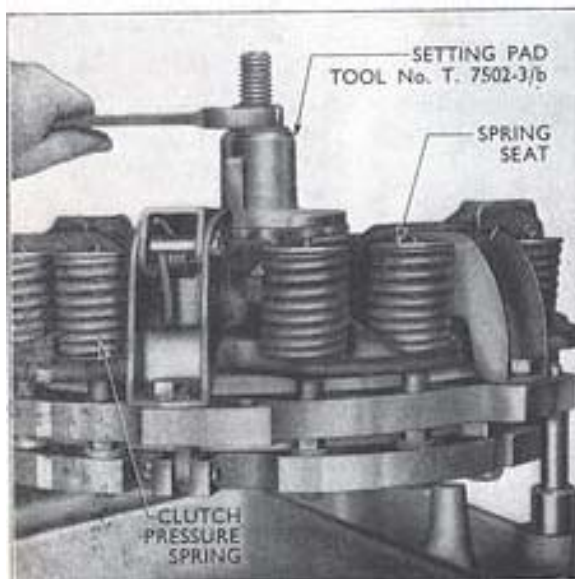

Fig. 11
1. Locate the setting pad (Tool No. T.7502-3/b) over the centre spindle of the assembly fixture so that the large end face of the pad contacts the transmission clutch release lever screws. Fit the flat washer and nut to the centre spindle then screw down the nut so that the setting pad depresses the transmission and P.T.O. release levers (see Fig. 11), moving the pressure plates away from the centre drive plate. When carrying out this operation, ensure the P.T.O. and transmission lever adjusting screws project out of the levers approximately the same distance ($\frac{3}{8}$ in. (9.53 mm.) will be suitable), otherwise a fouling condition may occur which will prevent sufficient movement of the pressure plates. **Discontinue screwing down the nut immediately if the levers are depressed to the point where they strike the clutch cover.**
5. Invert the setting pad on the fixture centre spindle so that the large end face contacts the transmission release lever adjusting screws (as in Fig. 11). Fit the washer and nut to the centre spindle, screw down the nut then extract the three setting blocks. Remove the nut, washer and setting pad from the fixture centre spindle.